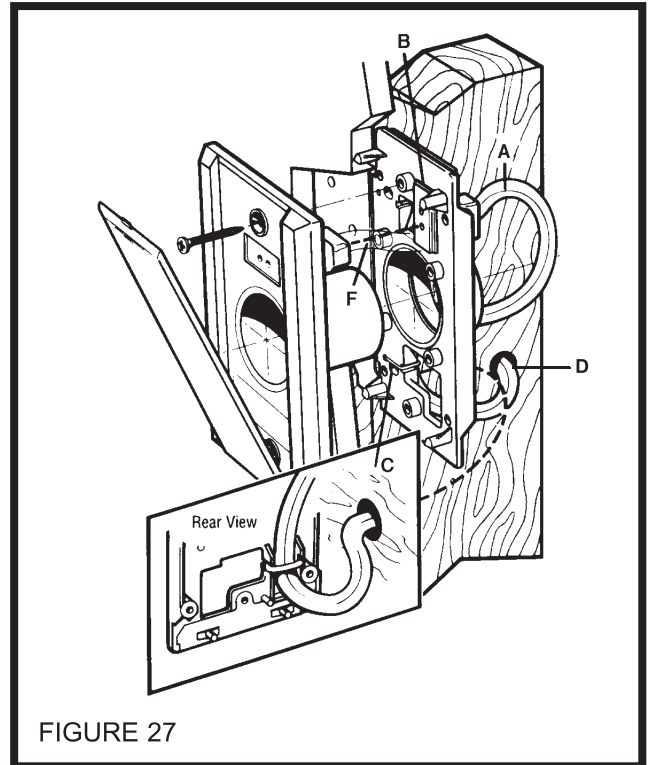
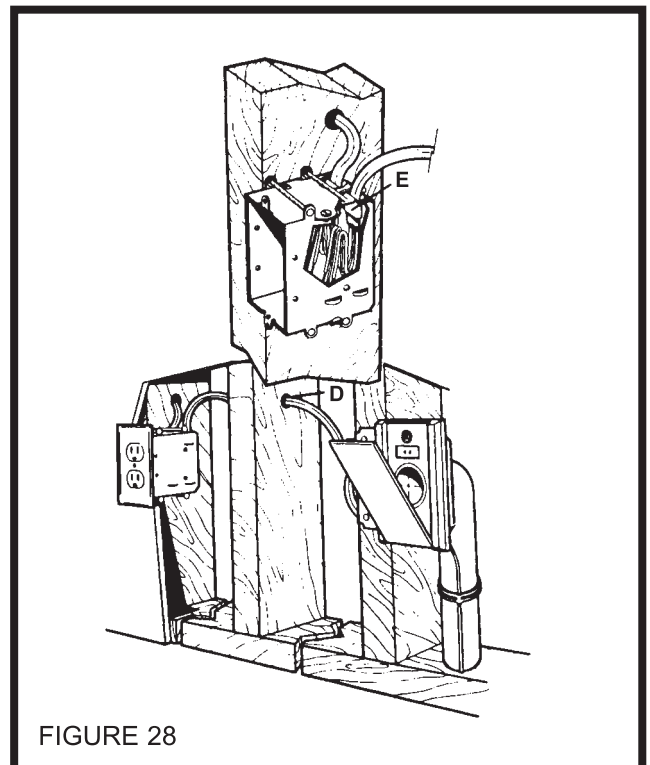

FIGURE 27
FIGURE 28
1. See Figure 27. Fasten the mounting plate to a stud within three studs (48") of an electrical outlet box. Measure and mark the wire 10" from the plug (A). Feed the wire through the top hole in the mounting plate (just above the circular opening). Snap the molded plug into the mounting plate as pictured (B). This will keep it secure and out of harm's way during drywall and finishing. Line up the wire at the previously measured 10" mark with the strain relief channel on the back of the mounting plate. Secure it in place with the supplied wire tie (C).
2. Run the inlet wire to the adjacent electric box. If you must run wire through a stud, drill directly through the center of the stud (D).
3. See Figure 28. Place the exposed ends of the two wires into the electrical box through a strain relief channel (E). Tighten the strain relief channel (do not overtighten) on the white sheathing leaving 1/2" of this sheathing exposed inside of the outlet box.